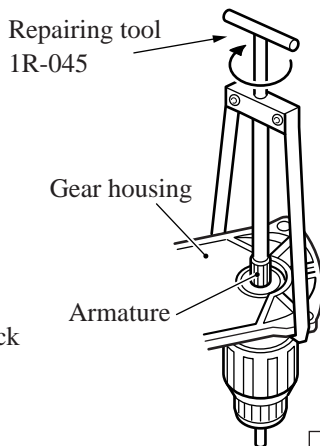

Figure 8
- j. Use gear puller to remove the armature shaft from Gear housing. (See the figure 8.)